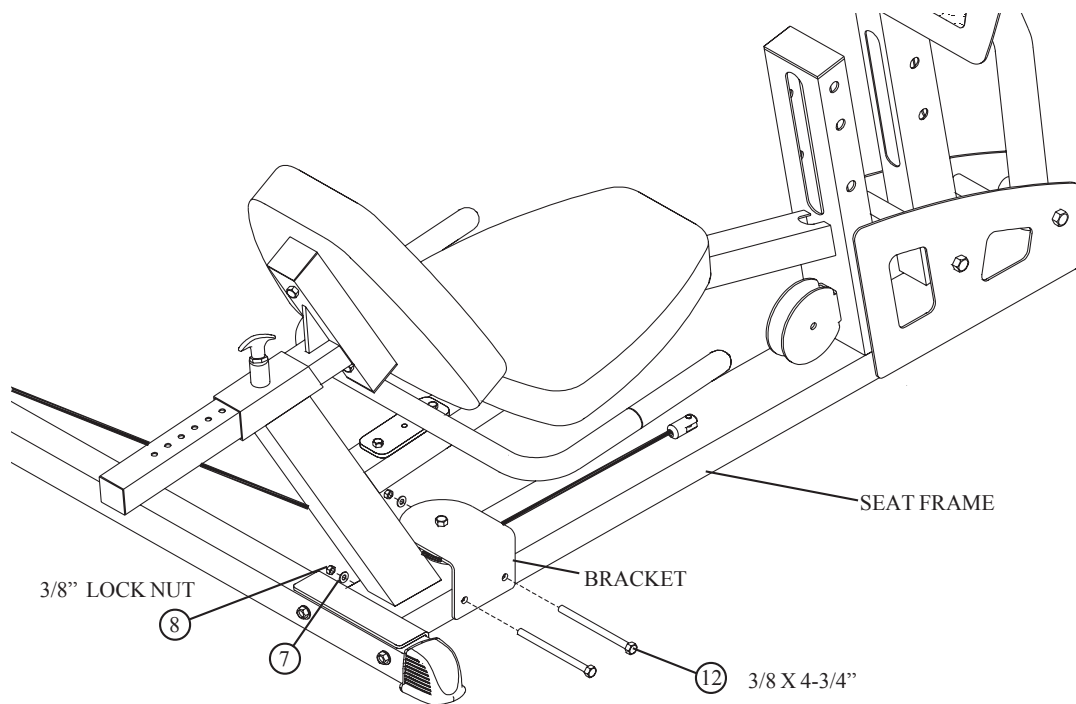

FIGURE 10
- **SECURELY** attach the BRACKET (from GLP LEG PRESS) to the SEAT FRAME using two 3/8" X 4-3/4" BOLTS (12), two 3/8" WASHERS (7), and two 3/8" LOCK NUTS (8). See FIGURE 10.